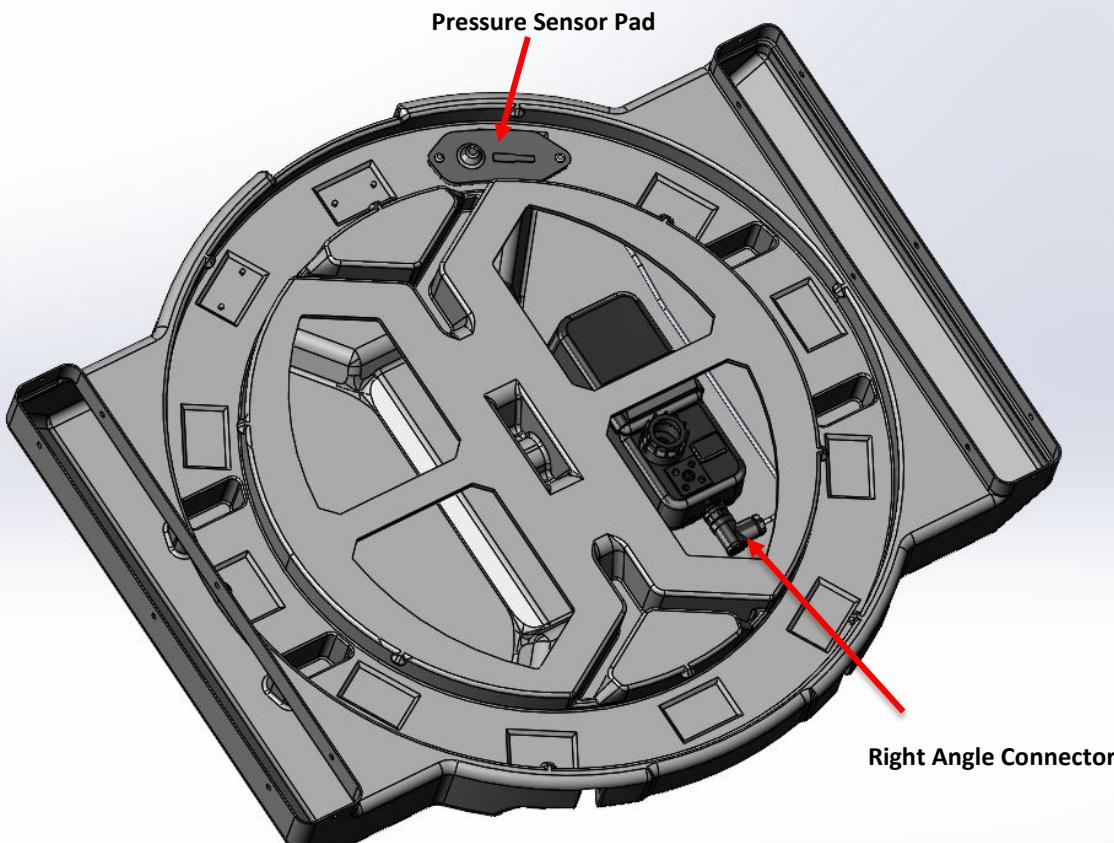

Figure 3: Pressure Sensor Pad attachment for Hatch Cover
1. Remove the Hatch Cover Seal. Position the Pressure Sensor Pad in the pocket to the right of the Hatch Cover Latch, as shown in Figure 3, and identify the mechanical securing locations.